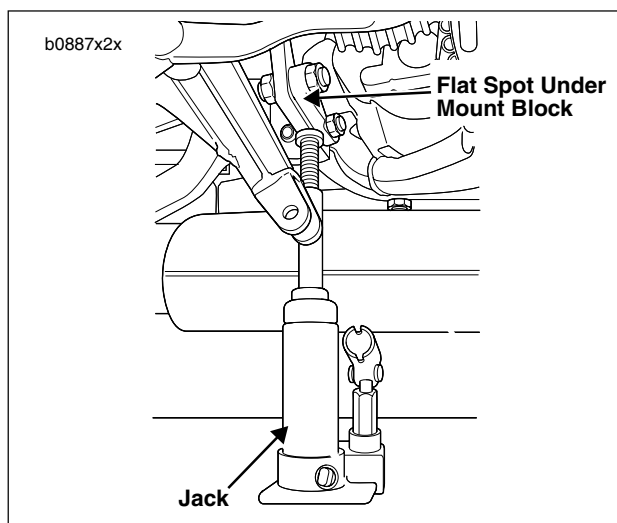

Figure 2-97. Supporting Motorcycle with Jack
- a. See Figure 2-97. Support motorcycle with jack.